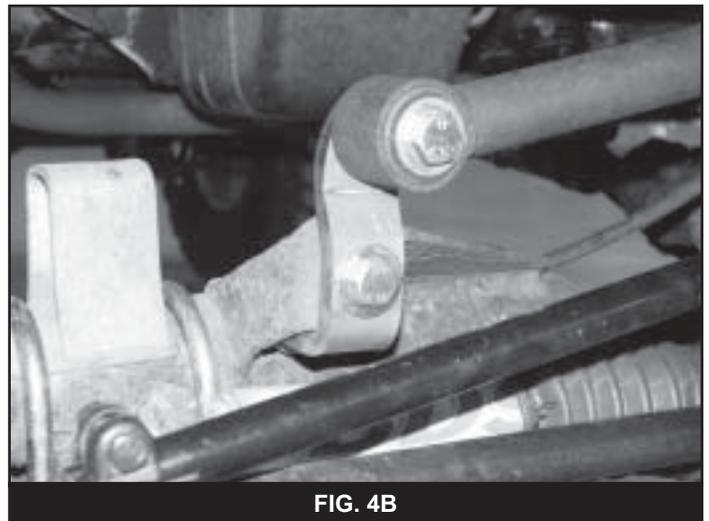

FIG. 4B
29. Reattach the new bracket to the axle with the 12mm hardware. Also attach the bracket through the newly drilled hole with a 7/16" x 1-1/4" bolt, nut and 7/16" SAE washer (BP #907). Torque 7/16" and 12mm hardware to 50 ft-lbs. (Fig. 4B)